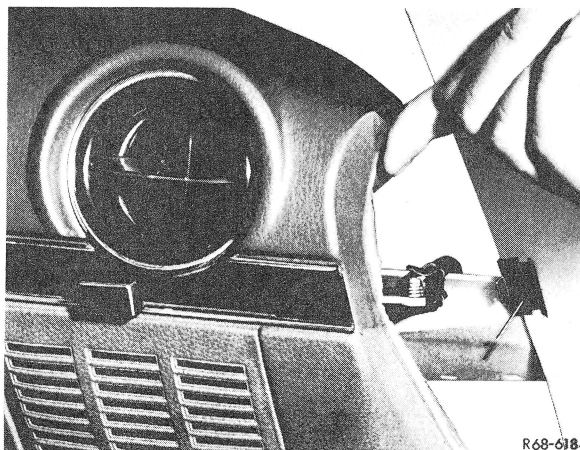

Fig. 5
Note: Make sure that prior to the installation of the instrument panel the clip (7) on both front wall pillars is inserted (Fig. 5).
26 Lift instrument panel at bottom center over controls against cross member, while simultaneously bending the righthand edge **down** (Fig. 5) and placing the instrument panel with the defroster nozzles on the heater.